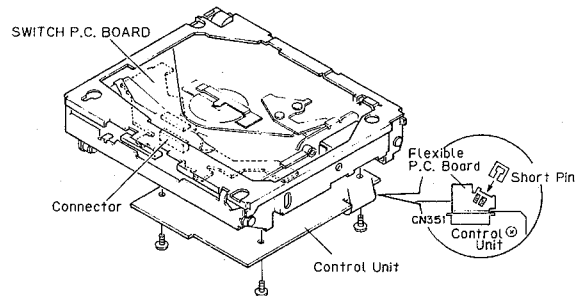

Fig.1
1. For pickup unit (CGY1020) handling, please refer to "Disassembly"(Fig.1). During replacement, handling precautions shall be taken to prevent an electrostatic discharge(Protection by a short pin).